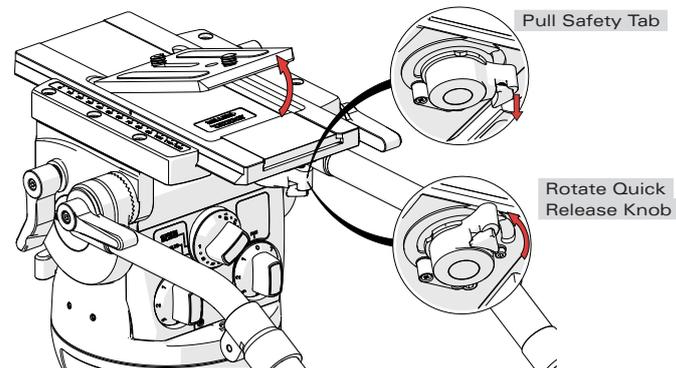

Fig. 4
- 2.1 Remove the CAMERA PLATE by pulling down the SAFETY TAB while rotating the QUICK RELEASE KNOB to the left. The CAMERA PLATE should pop out. (Fig. 4)